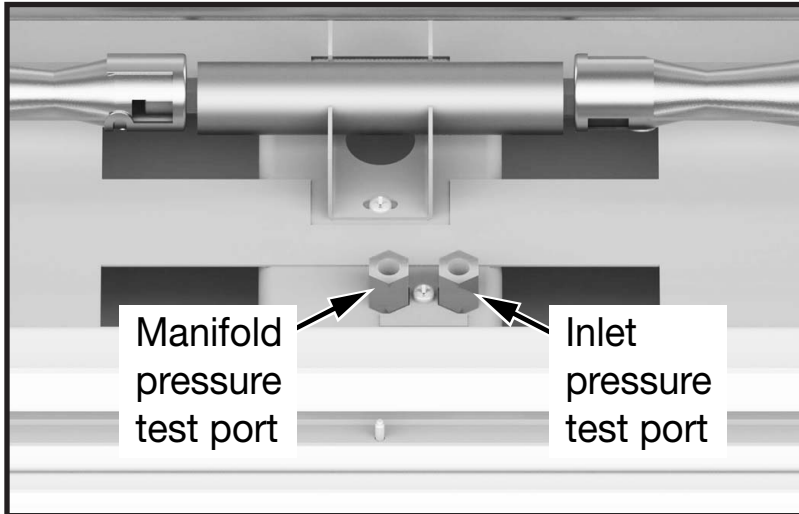

Figure 53: Pressure test ports.
1. Remove the plug from the pressure test port using a 3/16" hex key (Figure 53).